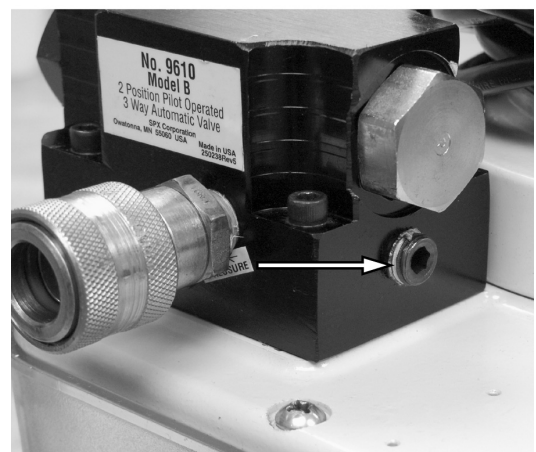

Figure 4. Gauge Port
1. See Figure 4. Remove the pipe plug from the valve's gauge port.